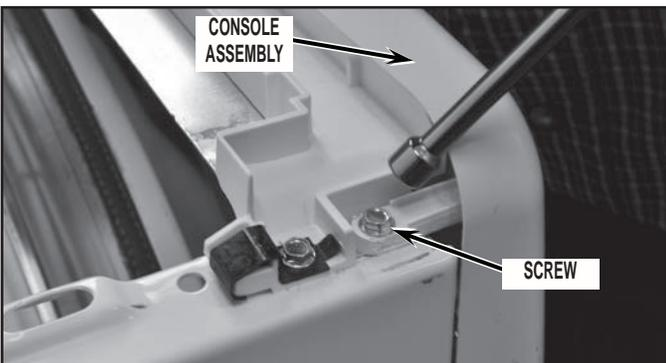

FIGURE 3
6. Remove console by first removing two (2) screws (one from each side of console assembly) at location as shown in *Figure 3*.